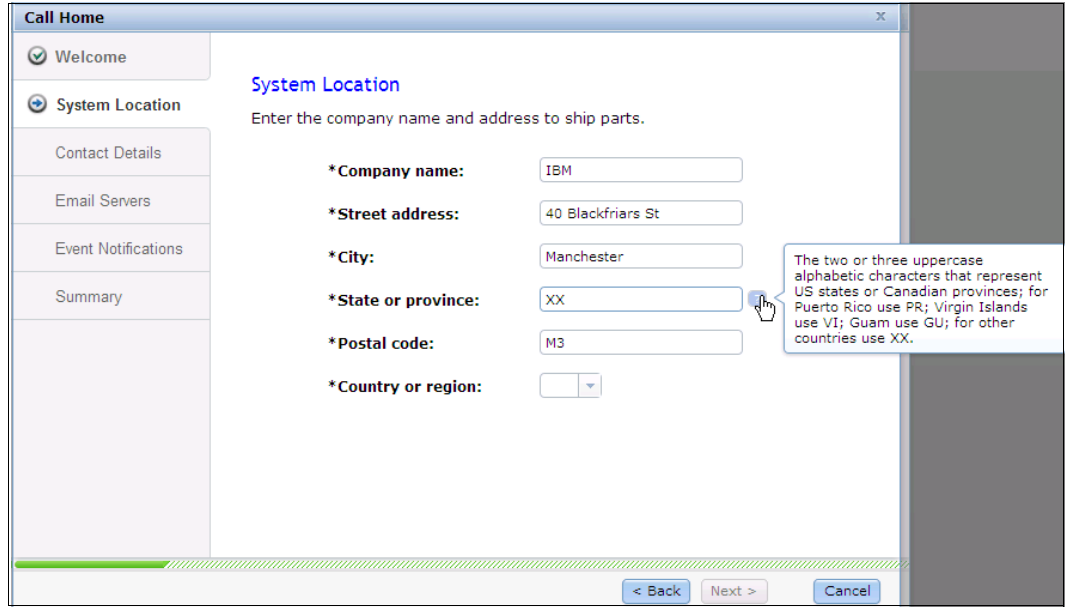

Figure 2-28 Call Home - System location
2. Follow the prompts for callhome system location as shown in Figure 2-28 (all fields are mandatory).